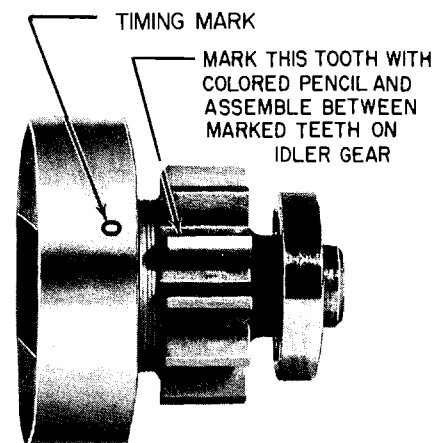

Figure 4-3. Magneto Gear Timing Mark
4-1. Assemble a gasket (1), adapter (7) and gasket (6) on the magneto mounting pads. Assemble the ball bearing (12) on the magneto gear and retainer (5) and install the assemblies engaging the marked tooth of the magneto gear (See figure 4-3) between the two marked teeth on the crankshaft idler gear (See figure 4-4). Install the drive cushions (11) in the retainer.